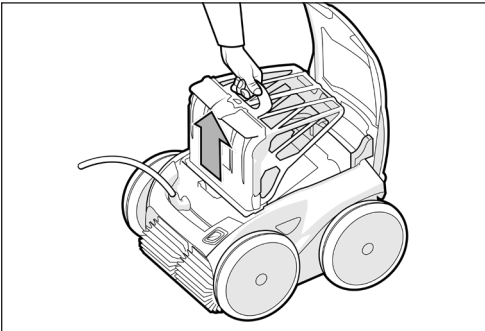

Figure 12. Remove Filter Canister Assembly
4. Remove the filter canister assembly from the cleaner body and separate the two canisters. See *Figure 12*.